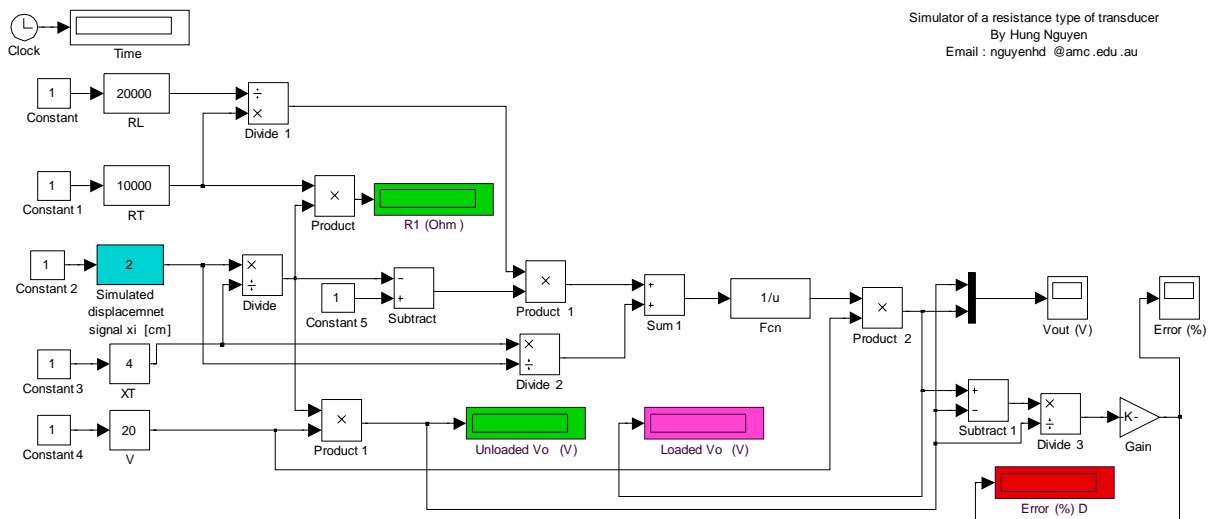

Figure 4 Simulink model after editing and setting system parameters
- Wire blocks properly based on the above block diagram algorithm (see **Fig. 4**)
- Edit the Simulink model and set system parameters as in **Fig. 4**.